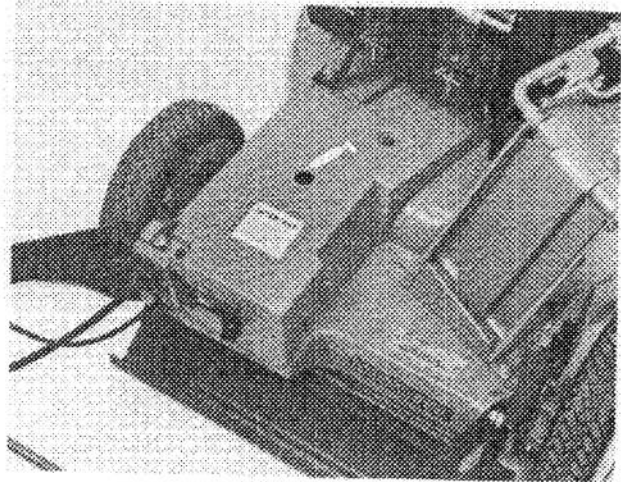

Figure 20
2. Install grease gun onto fitting thru belt cover opening (Fig. 20). Gently apply 1-2 pumps of grease.